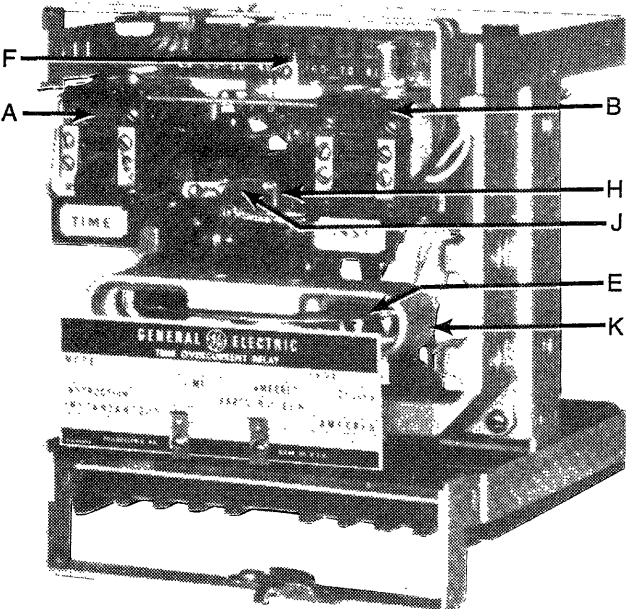

Fig. 2. Typical IAC relay, front view (800 series)
- A. Figure 2 on page 2 indicates that the reference letter for the Seal-in Unit is "A".